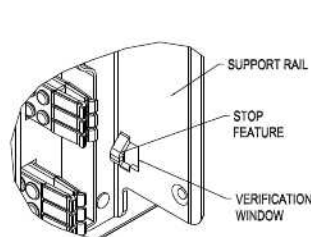

Figure 32. Verification Window
11.3.6 Push the bus plug straight into the busway plug-in outlet until the stop feature contacts the busway side channel. Visually inspect the interface at the verification windows (Figure 32).